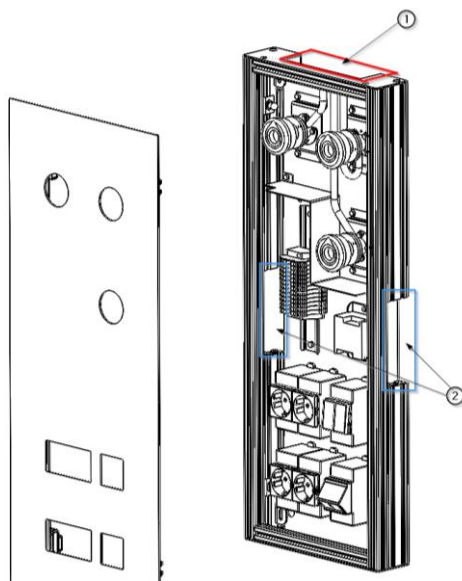

Fig. 2 Location of gas inlets and electrical inlets
The inlet for the medical gas supply ① is located on the upper side of the ANTEA chassis. The electrical connections ② are located on the side(s) of the equipment. See figure 2.